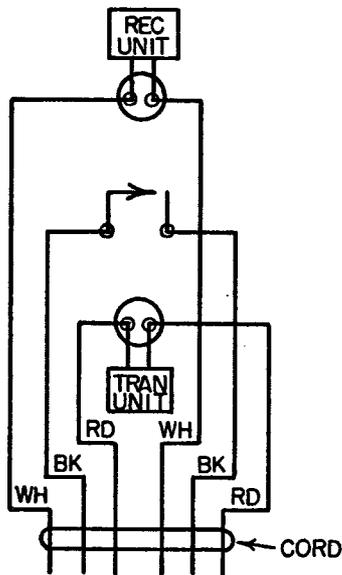

FIG. 1
4.02 For connections of G5KR handset to 500, 600, or 700 type sets, use Table A and Figure 1 of this addendum.